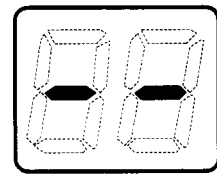

Fig 1.
2. Drill 3 holes in the wall as shown in fig 1, one for the cable and two for the securing screws. Ensure holes are drilled deep enough. Fit wall plugs if needed. (ensure controller is level.)
(fig 1)
2. Remove the front cover from the Appliance (4 screws) fig. 1.
2. Remove the front cover from the Appliance (4 screws) fig.1.
STEP 2: Check that the display on all Four controllers is lit and displaying a temperature when switched on. If any ONE of the controllers displays two dashes (see fig 1.) in the display repeat STEP 1.